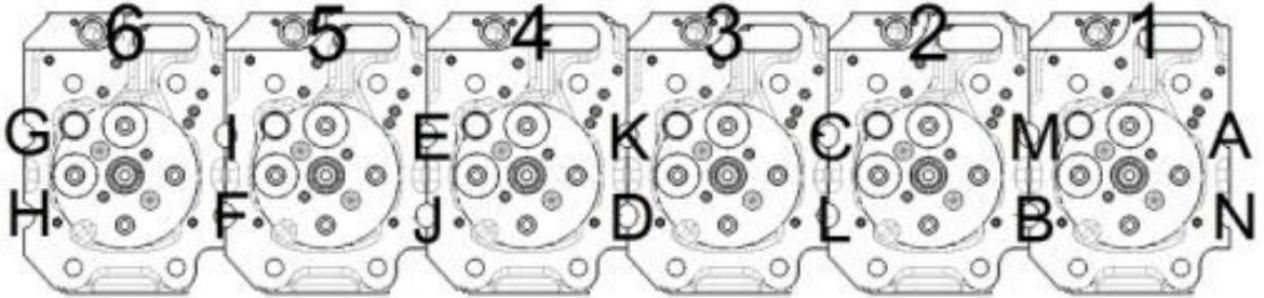

Figure 50. Cylinder Head Removal Order
1. Loosen the cylinder secondary bolts in the following order (Figure 50).